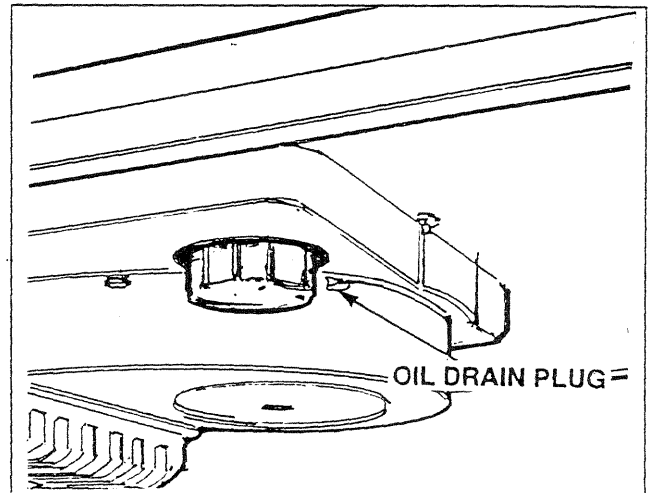

Figure 4 — Location of Oil Drain Plug
- With engine still warm from running, clean area around oil drain plug and remove oil drain plug (Figure 4). Drain oil completely into a suitable container.